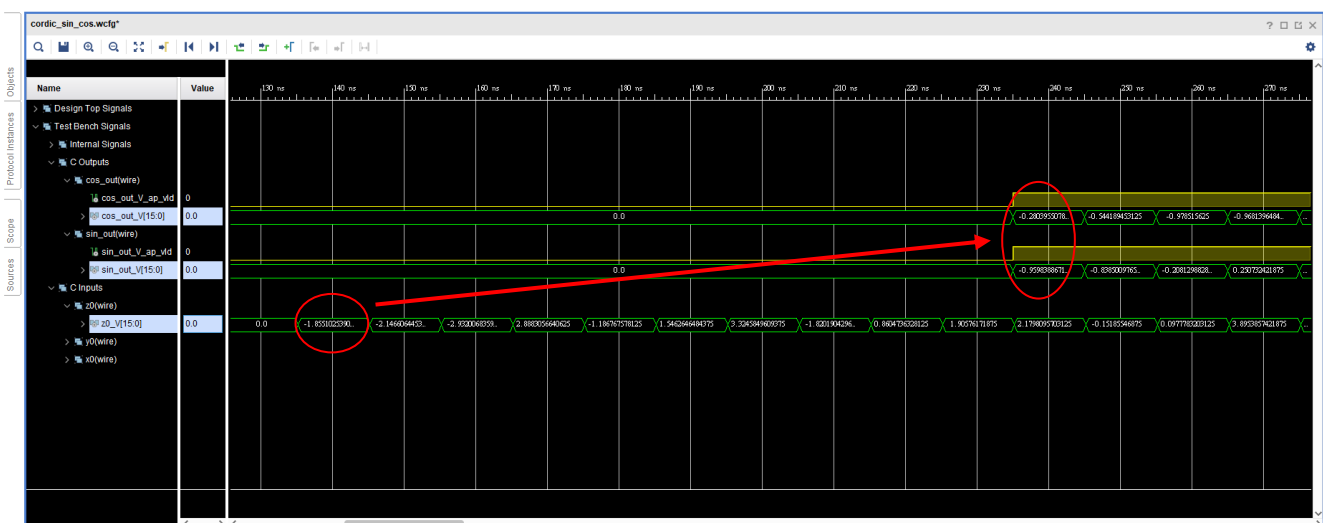
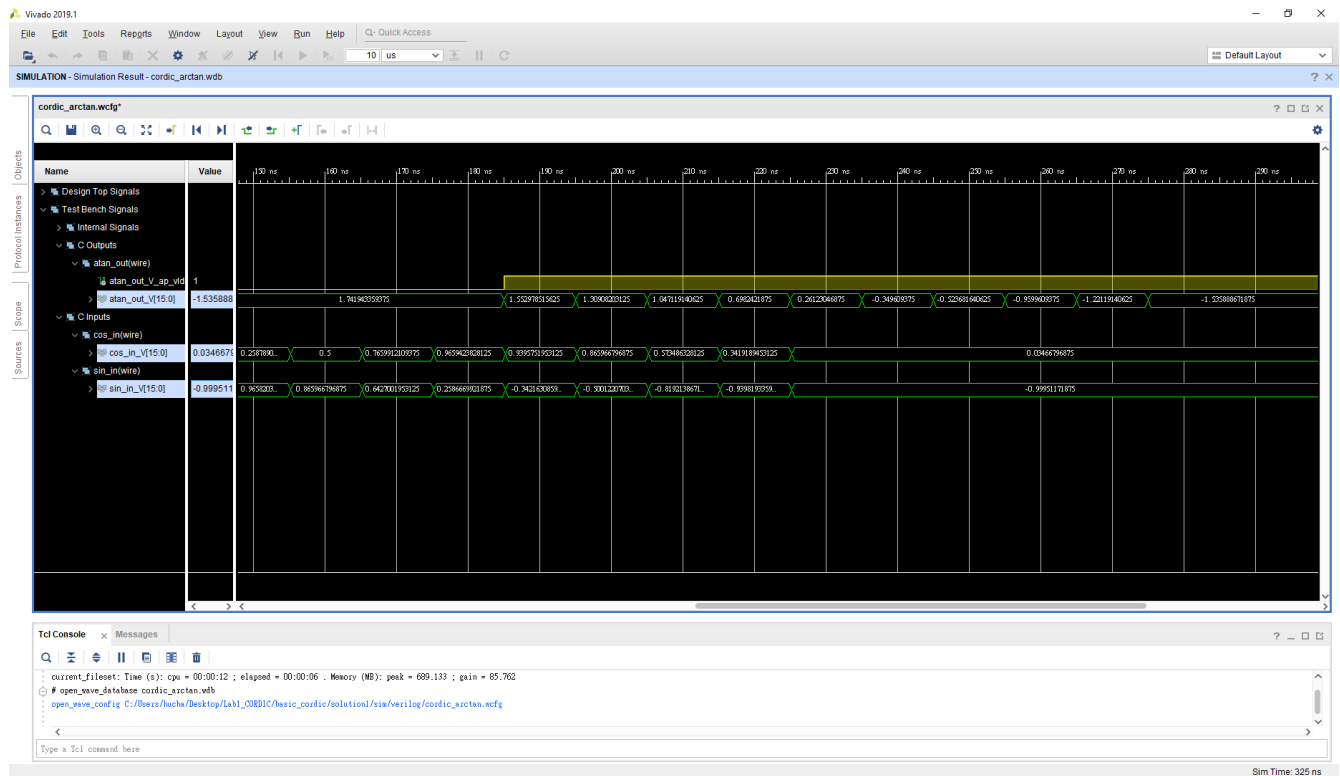
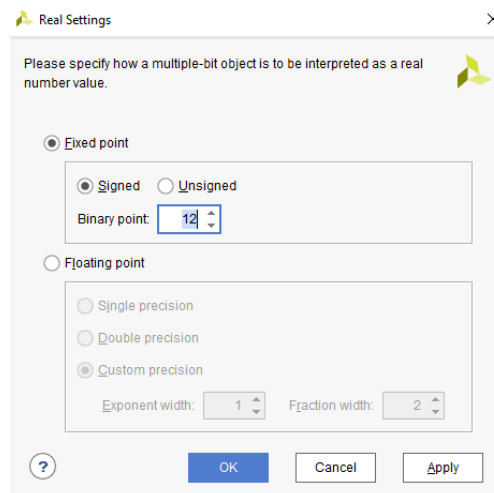

Figure 10: Behavior simulation of CORDIC-based sine and cosine.
Figure 11: Behavior simulation of CORDIC-based  $\tan^{-1}$ .
Figure 12: Convert hexadecimal to decimal values.
f) Vivado will then launch its simulators after a few minutes. Your results should be the same as shown in Figure 10 and Figure 11. Note that we can convert the hexadecimal results to decimal values. Right click on the value and choose “**Radix -> Real Settings**”. Set the configuration to be the same as Figure 12.